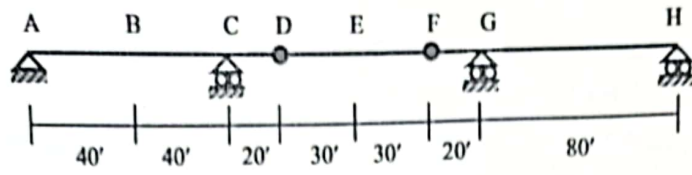

Fig. 7
7. a) Explain Muller-Breslau principle for Influence Line. (10) 3
b) Draw the influence lines with ordinate for the following structure shown in Fig. 7: (30) 3
(1) Vertical reactions at A and C. (ii) Shear and moment at B and E. (iii) Shear at just left of support C and support G.